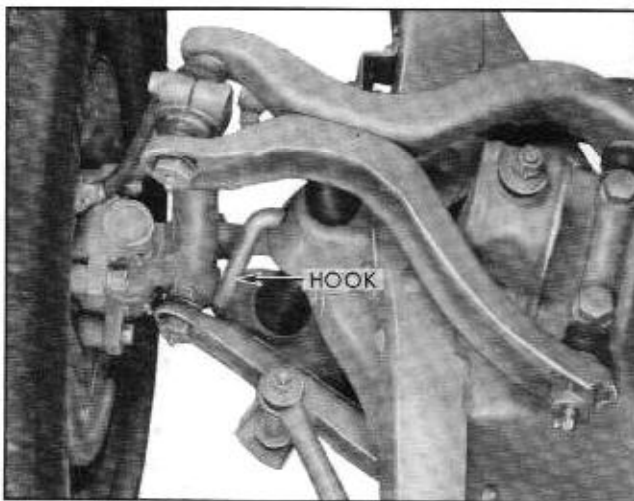

Fig. 9-24 Hold Down Hook J-5571 Installed
1. Hook front suspension in five passenger load position using tool J-5571 front suspension hold down hook (Fig. 9-24).